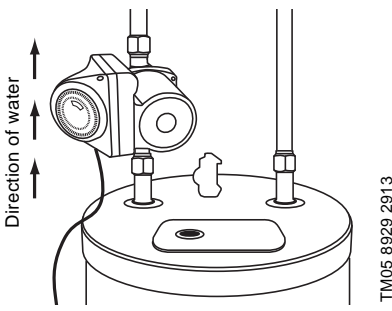

Fig. 3 Installation of pump onto water heater discharge
4. Install pump onto the water heater discharge, using the 3/4" female fitting and gasket supplied on the pump. Ensure that the pump shaft is horizontal. The pump should be installed so that the pump is pumping away from the hot water heater, towards the house. Confirm the direction of pumping by observing the flow arrow on the side of the pump housing. Be sure that the pump is not touching the exhaust vent piping (chimney) of a gas or oil fired hot water heater. See fig. 3.